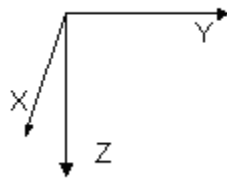

Figure 2-3. Measurement 3
- 4 Turn the system upside-down and press the keyboard's Space bar to continue. See Figure 2-3.